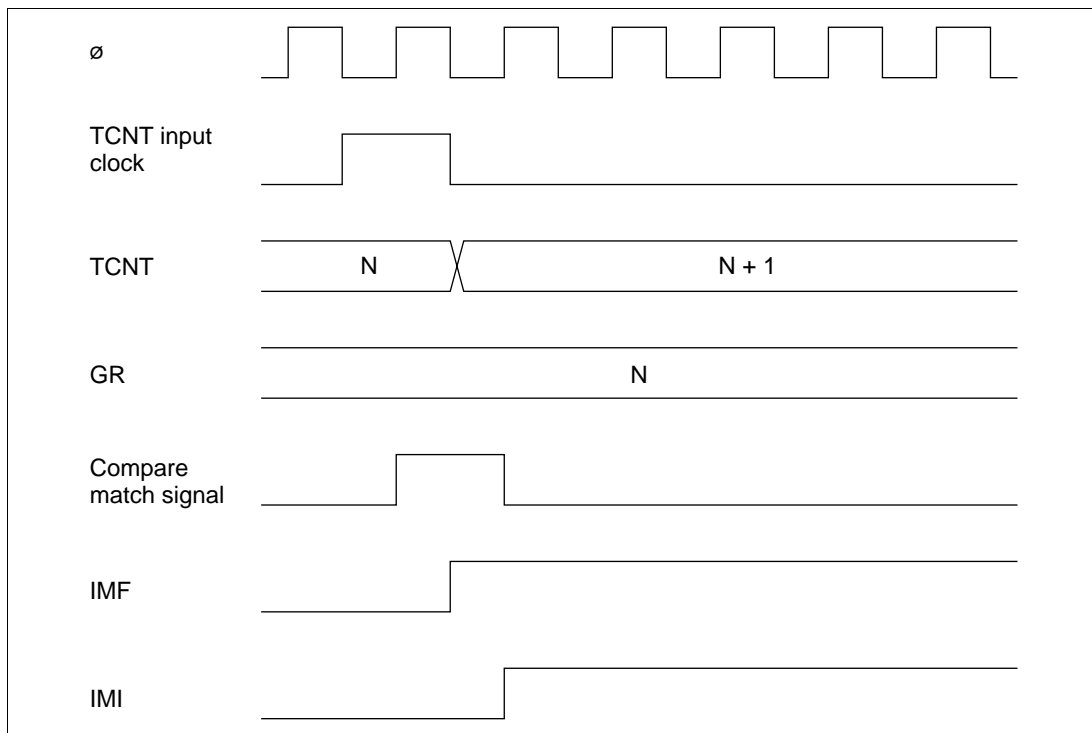

Figure 8-57 Timing of Setting of IMFA and IMFB by Compare Match
Timing of Setting of IMFA and IMFB at Compare Match: IMFA and IMFB are set to 1 by a compare match signal generated when TCNT matches a general register (GR). The compare match signal is generated in the last state in which the values match (when TCNT is updated from the matching count to the next count). Therefore, when TCNT matches a general register, the compare match signal is not generated until the next timer clock input. Figure 8-57 shows the timing of the setting of IMFA and IMFB.